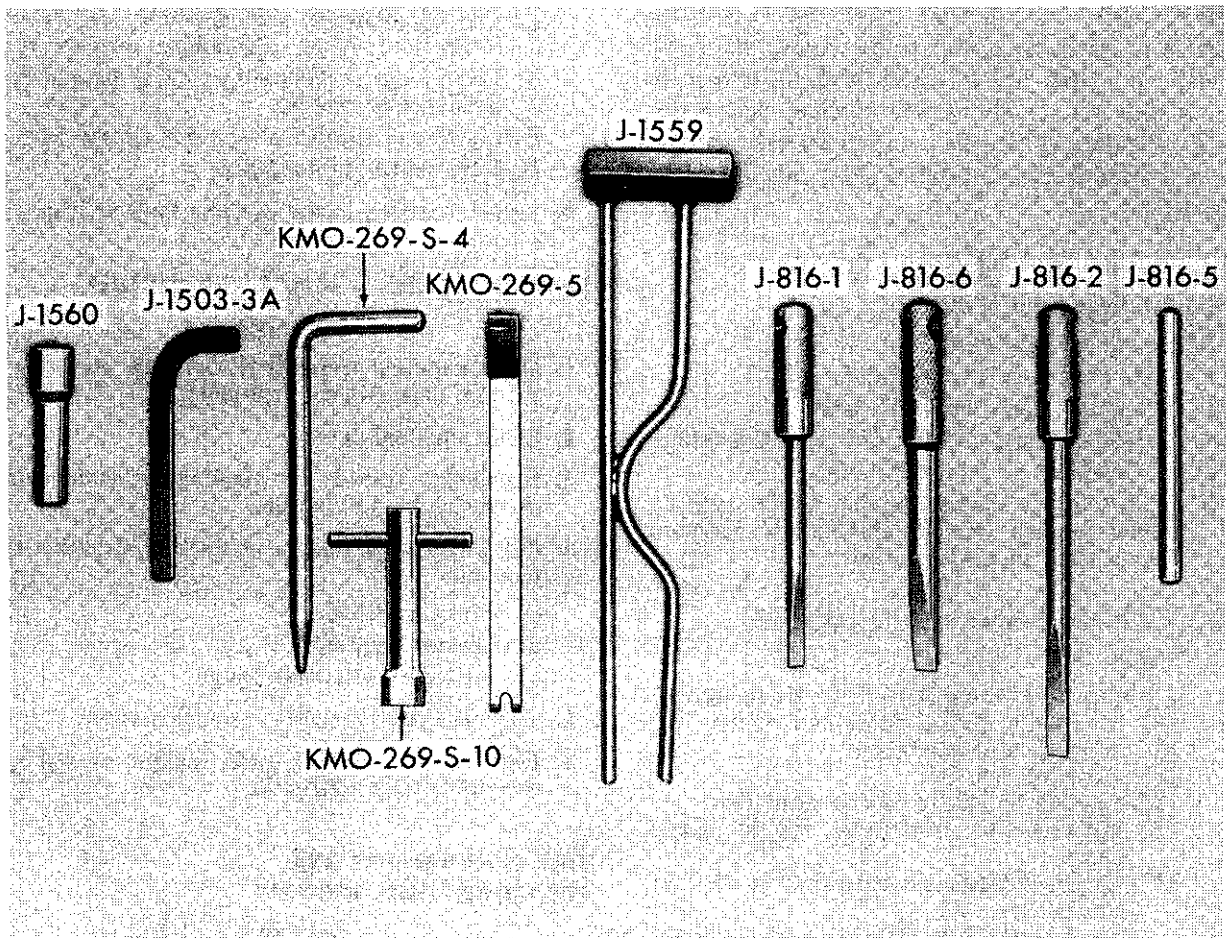

FIG. 261
**COMMANDER** The tools illustrated in figure 261 are required to service the Stromberg Model BXOV-26 carburetor. These tools are included in the Carburetor Tool Kit No. J-505-SC.
**KEY TO TOOLS IN FIGURE 261**